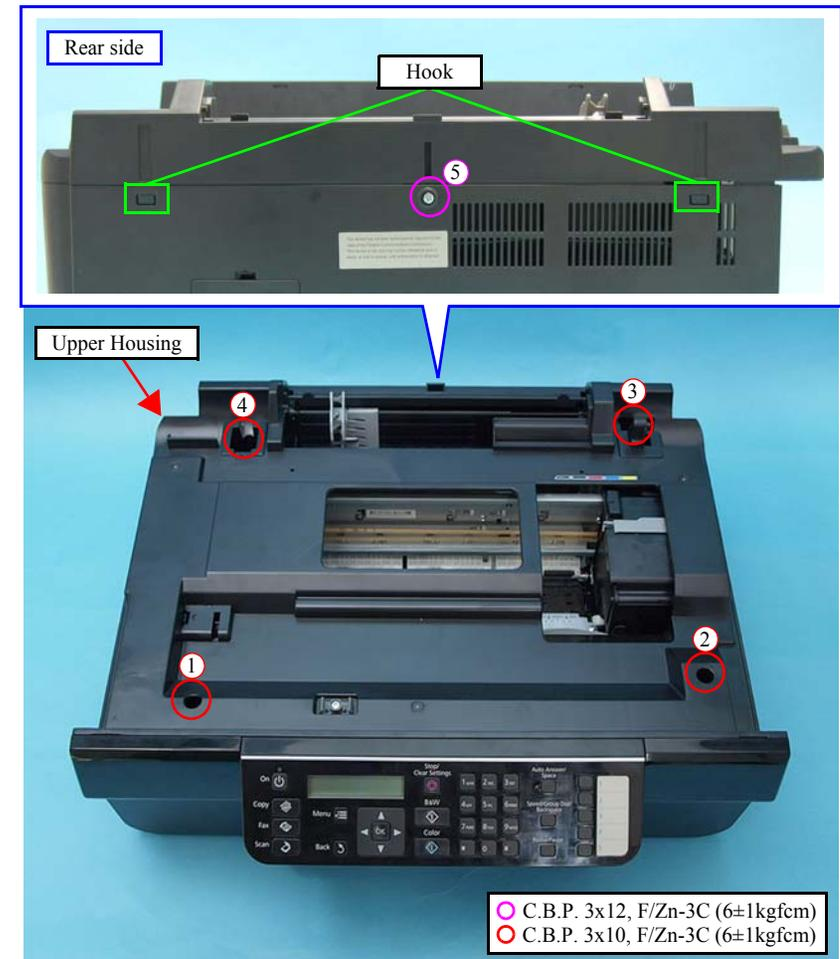

Figure 4-11. Removing the Upper Housing (1)
- When installing the Upper Housing, tighten the screws in the order given in Figure 4-11.